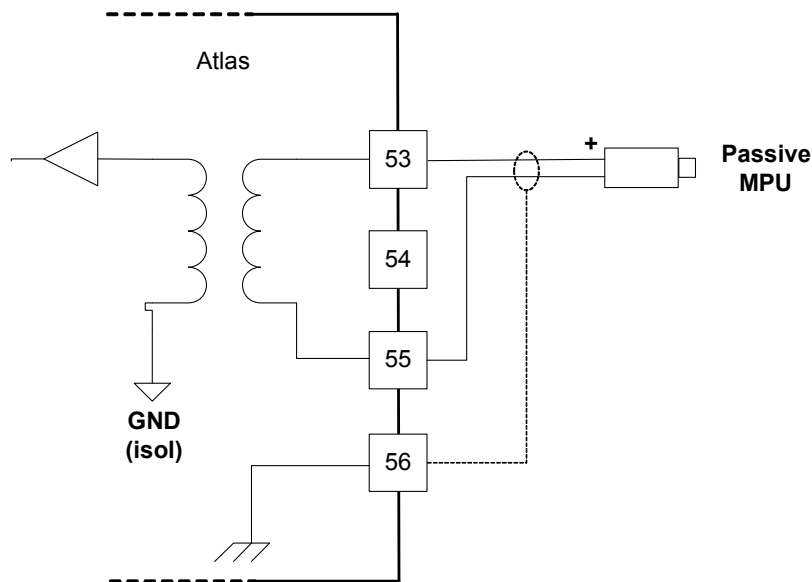

Figure 5-4. Wiring Example—MPU Interface to the SmartCore Board
- Refer to Figures 5-4 and 5-5 for speed sensor wiring.